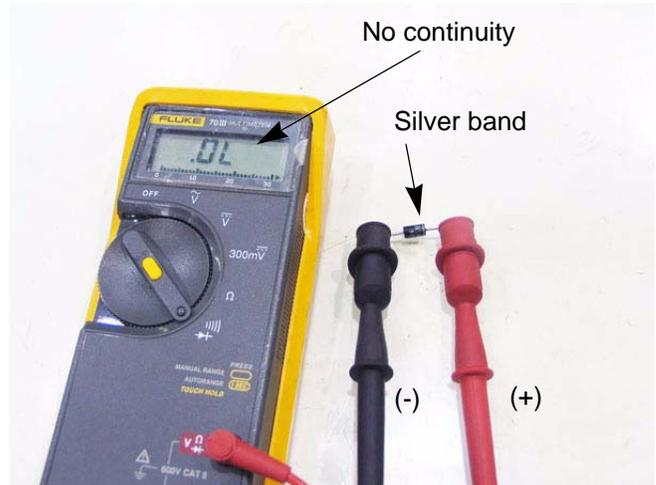

Figure 7.69
7. The meter should indicate no continuity. See Figure 7.69.